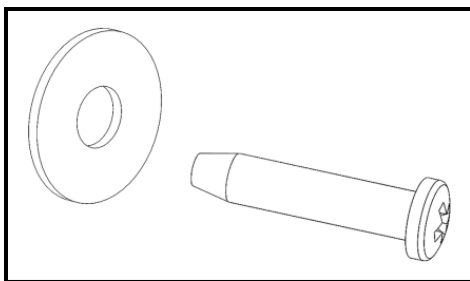
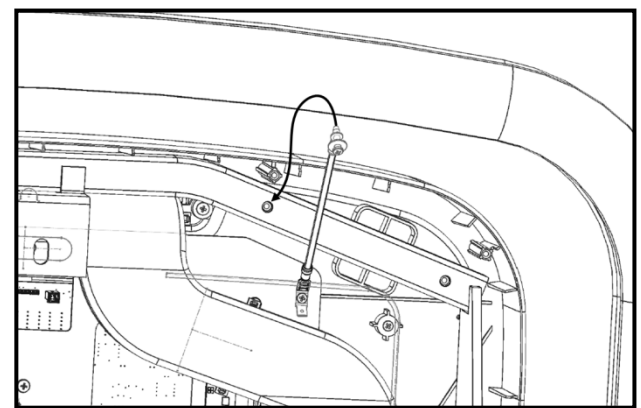
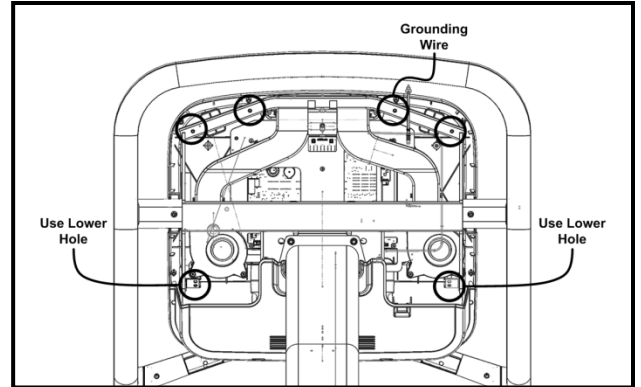

Fig. 18
Fig. 19
Fig. 20
18. From the back of the display (Fig. 19), connect the display's grounding wire to the frame using a washer & Phillips head screw (Fig. 18).
19. Secure the display to the console frame by installing six Phillips head screws with washers (Fig. 18) at the corresponding circled locations (Fig. 20).